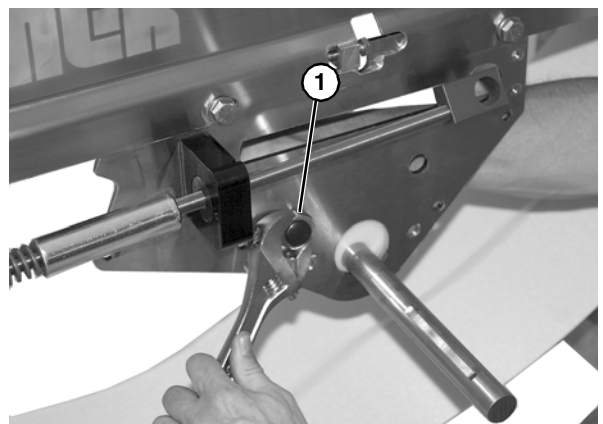

Figure 92
9. Remove nut (Figure 92, item 1).